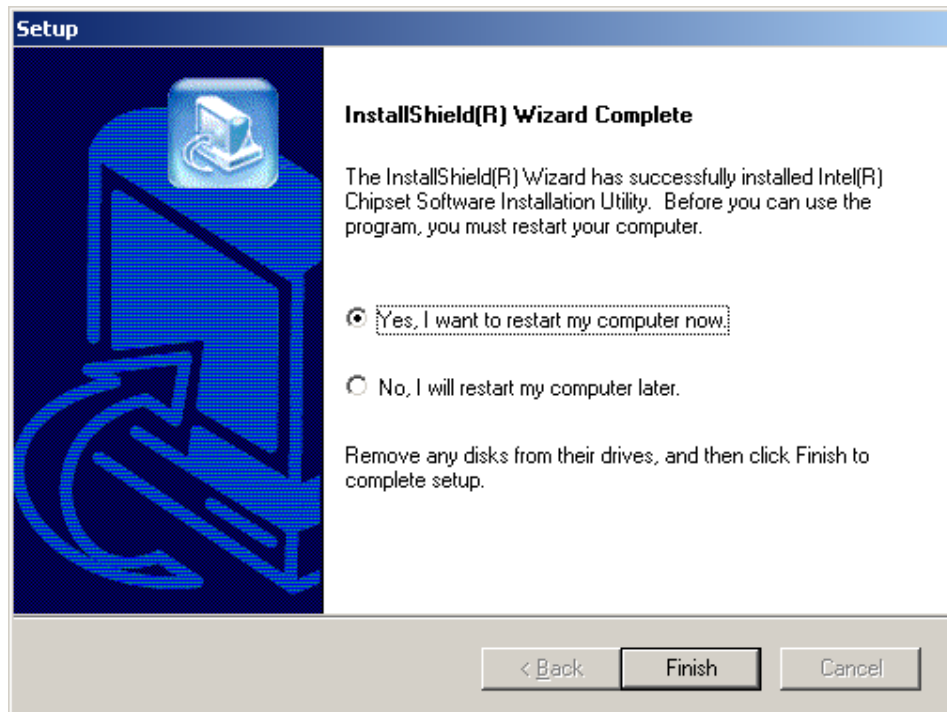

Figure 6-6: Chipset Software Installation Utility Complete
Step 7: After the driver installation process is complete, a confirmation screen appears (**Figure 6-6**).
Step 8: The confirmation screen (**Figure 6-6**) offers the option of restarting the computer now or later. For the settings to take effect, the computer must be restarted. Click **FINISH** to restart the computer.